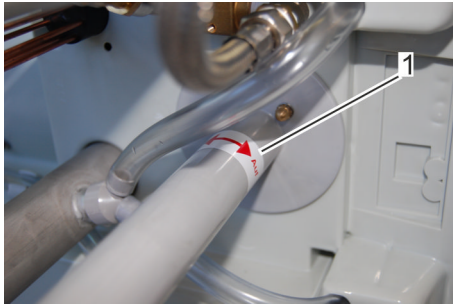

Fig. 47: Releasing the water pump
6. ➤ Release the water pump to the right and pull out it carefully (Fig. 47/1).